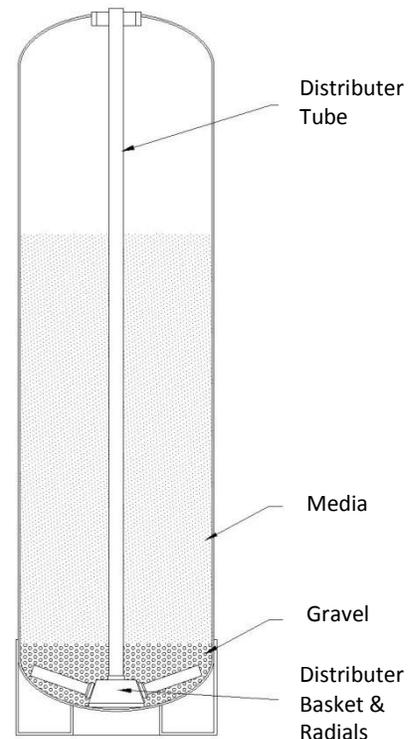

Figure 10: Media Tank Diagram
- J. Tighten the control valve onto the tank to the point that it is snug. The finished tank is shown in Figure 10. Double check that the valve is in a correct position to be able to install the plumbing.